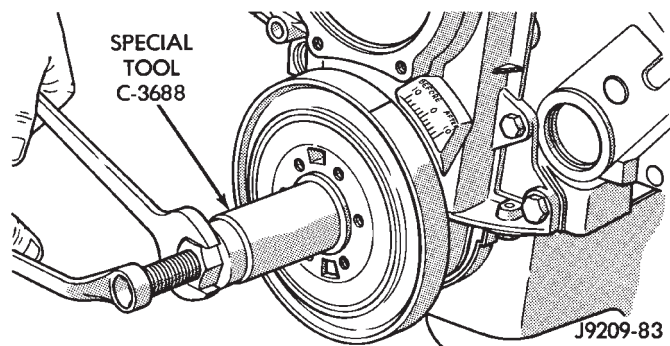

Fig. 22 Installing Vibration Damper
(2) Place installing tool, part of Puller Tool Set C-3688 in position and press the vibration damper onto the crankshaft (Fig. 22).